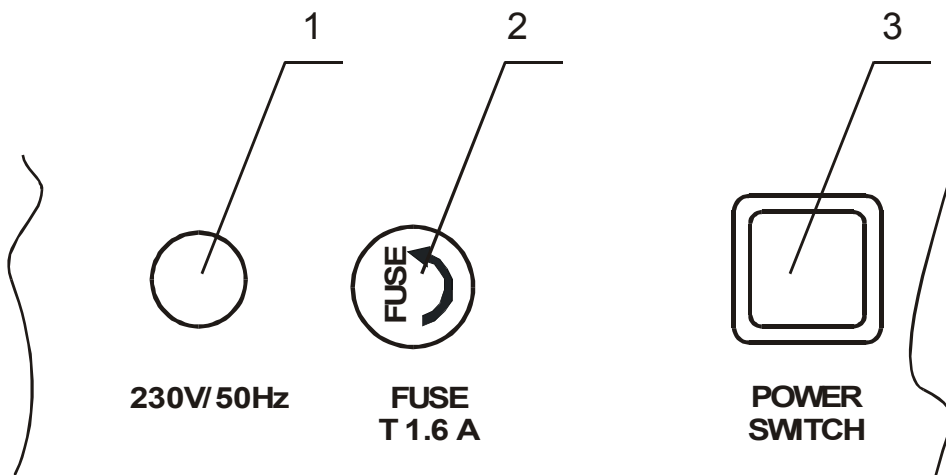

Fig. 3
4. When the message **SWITCH OFF...** is on the display press the Power switch Fig.3 –pos.3.